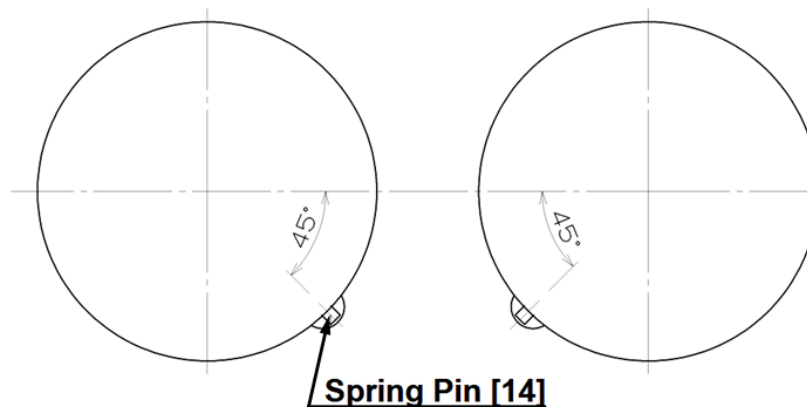

Figure 5-23 Spring Pins on the Main Bearing for the Suction Cover
- c) Insert the main bearings into the suction cover. Care should be taken of the angle of the spring pins [14] located on the circumference of the main bearing, since the pins must be fixed for anti-rotation by notch on the suction cover. Refer to Fig 5-23.